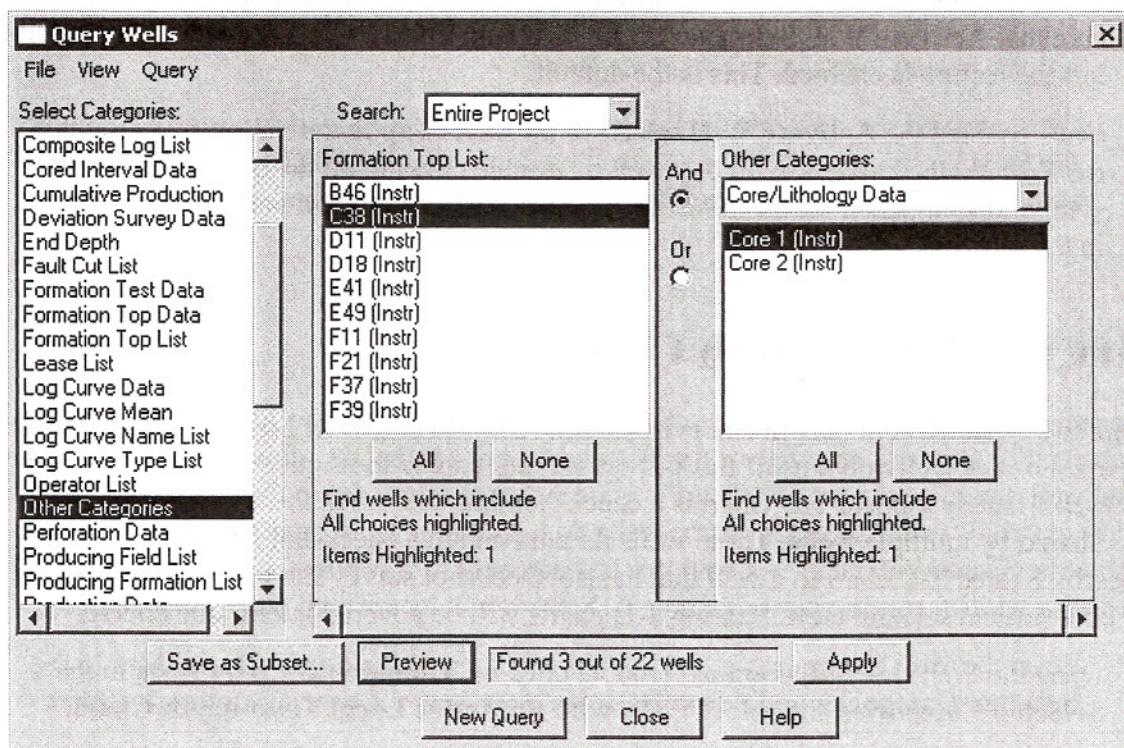

Figure 1.5 — Query Wells C38 Core1
2. Click on the **down arrow** in the box under Other Categories and select **Core/Lithology Data** from the drop down list. Select **Core 1 (SMT)** from the list and click on the **Preview** button (Figure 1.5).